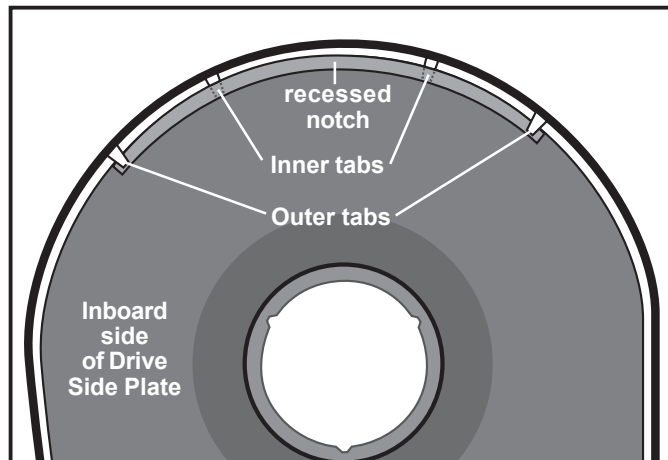

Figure 20
6. Manually adjust the horseshoe, making sure that the two outer tabs are positioned on one side, and the two inner tabs are positioned on the other side of the recessed notch (*Figure 20*).